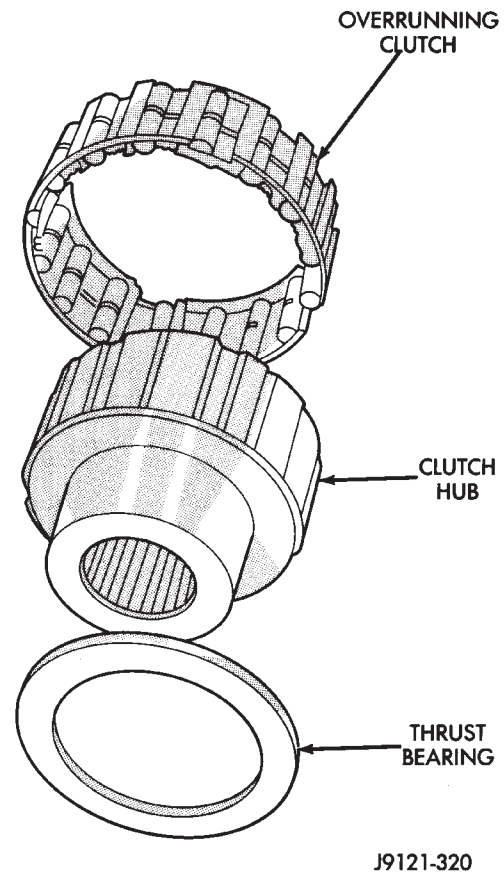

Fig. 28 Overrunning Clutch Components
- (18) Remove thrust bearing from overrunning clutch hub (Fig. 28).
- (19) Remove overrunning clutch from hub (Fig. 28).